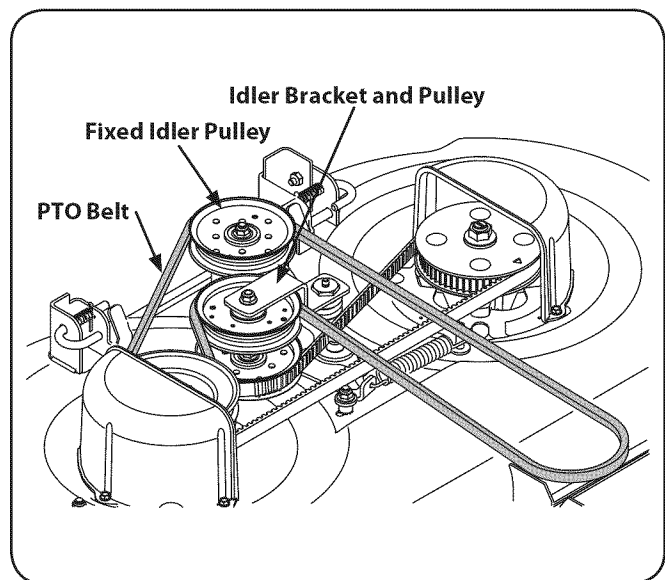

Figure 7-4
- Slide the belt between the bottom of the idler pulley and top of the timing belt idler pulley below. See Fig. 7-4.
- Loop the belt and push out of the V-groove of the drive pulley on the right hand spindle assembly. Lift the belt over the pulley and out from beneath the spindle cover. See Fig. 7-4.
- Route the back side of the belt around idler pulley and between the idler pulley and idler bracket. Re-tighten the hex screw and flange lock nut if loosened earlier. Refer to Fig. 7-4.
- Route the belt around the fixed idler pulley as shown in Fig. 7-4 and re-install the deck as described in "Reinstalling the Cutting Deck" later in this section.